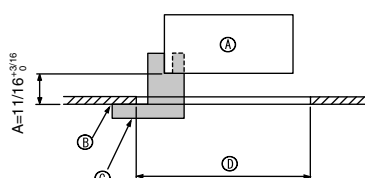
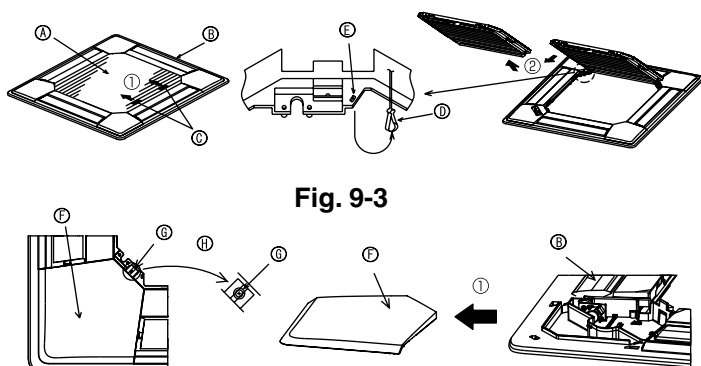
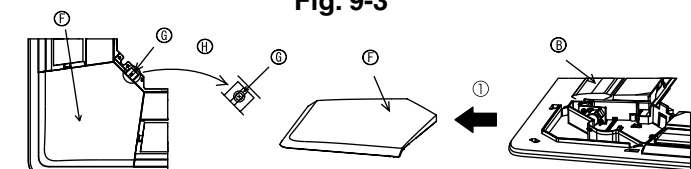

Fig. 9-2
Fig. 9-3
Fig. 9-4
①	Grille	1	950 x 950 (mm), 37-3/8 x 37-3/8 (inch)
②	Screw with captive washer	4	M5 x 0.8 x 25
③	Gauge	1	(Divided into four parts)
④	Fastener	3
⑤	Screw	4	4 x 8
⑥	Screw	1	4 x 12
⑦	Wired remote controller	1	for PLP-42BAMD
9.2. Preparing to attach the grille (Fig. 9-2)
- With the gauge ③ supplied with this kit, adjust and check the positioning of the unit relative to the ceiling. If the unit is not properly positioned relative to the ceiling, it may allow air leaks or cause condensation to collect.
- C Gauge ③ (inserted into the unit)
9.2.1. Removing the intake grille (Fig. 9-3)
- Slide the levers in the direction indicated by the arrows ① to open the intake grille.
- With the intake grille in the "open" position, remove the hinge of the intake grille from the grille as indicated by the arrows ②.
9.2.2. Removing the corner panel (Fig. 9-4)
- Remove the screw from the corner of the corner panel. Slide the corner panel as indicated by the arrow ① to remove the corner panel.
[Fig.9-3] [Fig.9-4]